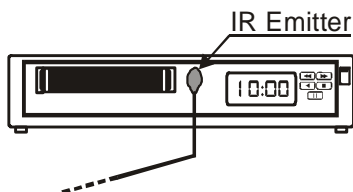

Figure 2: Connecting the IR Emitter
1. Connect the OUT¹, 3.5mm mini connector (from 1 to 4) to the following IR receivers² via the IR emitter cable (see Figure 2):